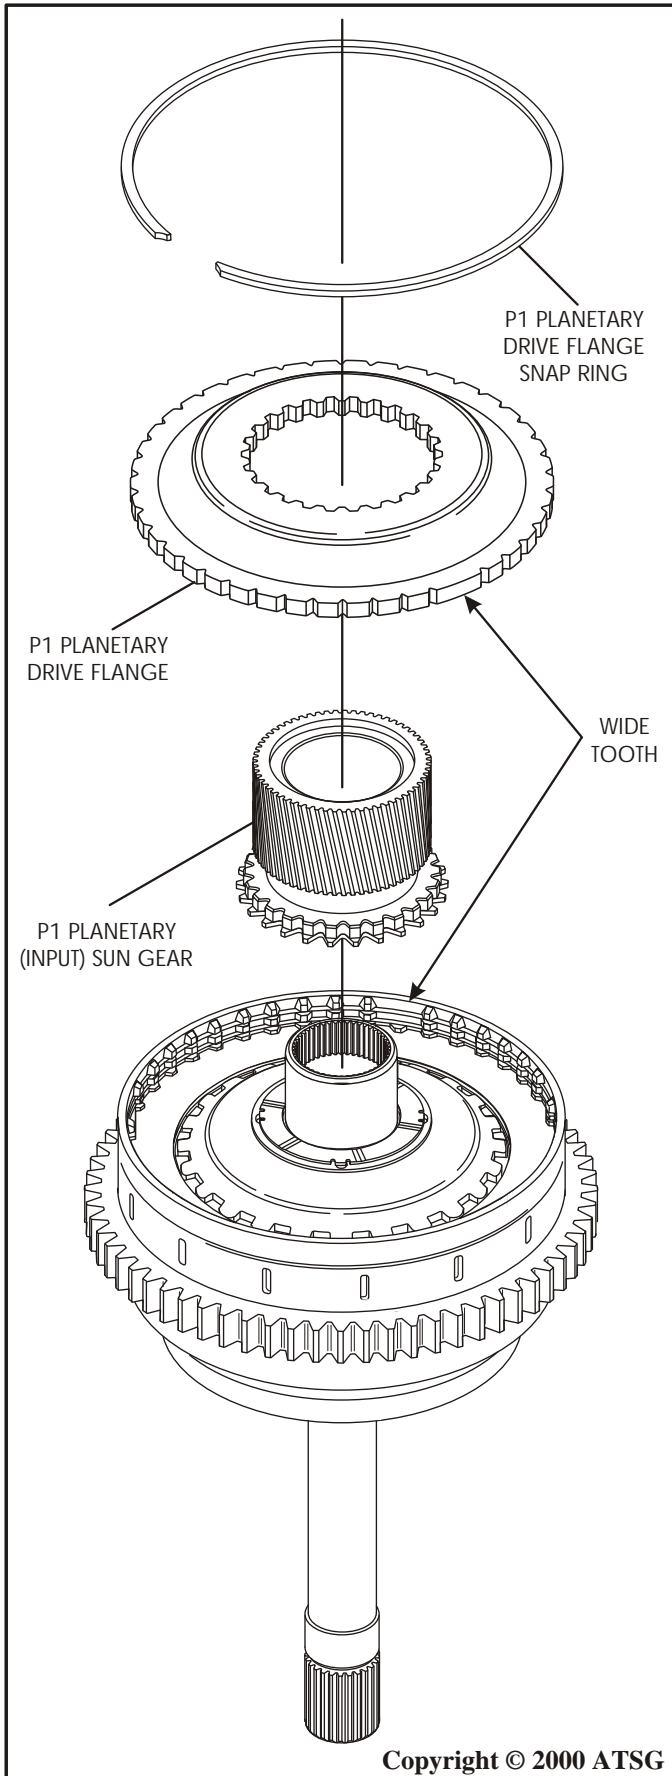

Figure 115
39. Install P1 planetary (Input) sun gear through the P1 planetary drive flange from the bottom as shown in Figures 115 and 116.
40. Holding the assembly by the sun gear, install the sun gear and drive flange assembly into the C1/C2 housing engaging the drive flange teeth into the splines of housing (See Figure 115).
Note: Notice that drive flange has three wide teeth that must be indexed to 3 wide grooves in the housing (See Figure 115).
41. Install the P1 planetary drive flange snap ring into **top** groove in housing (See Figure 115).